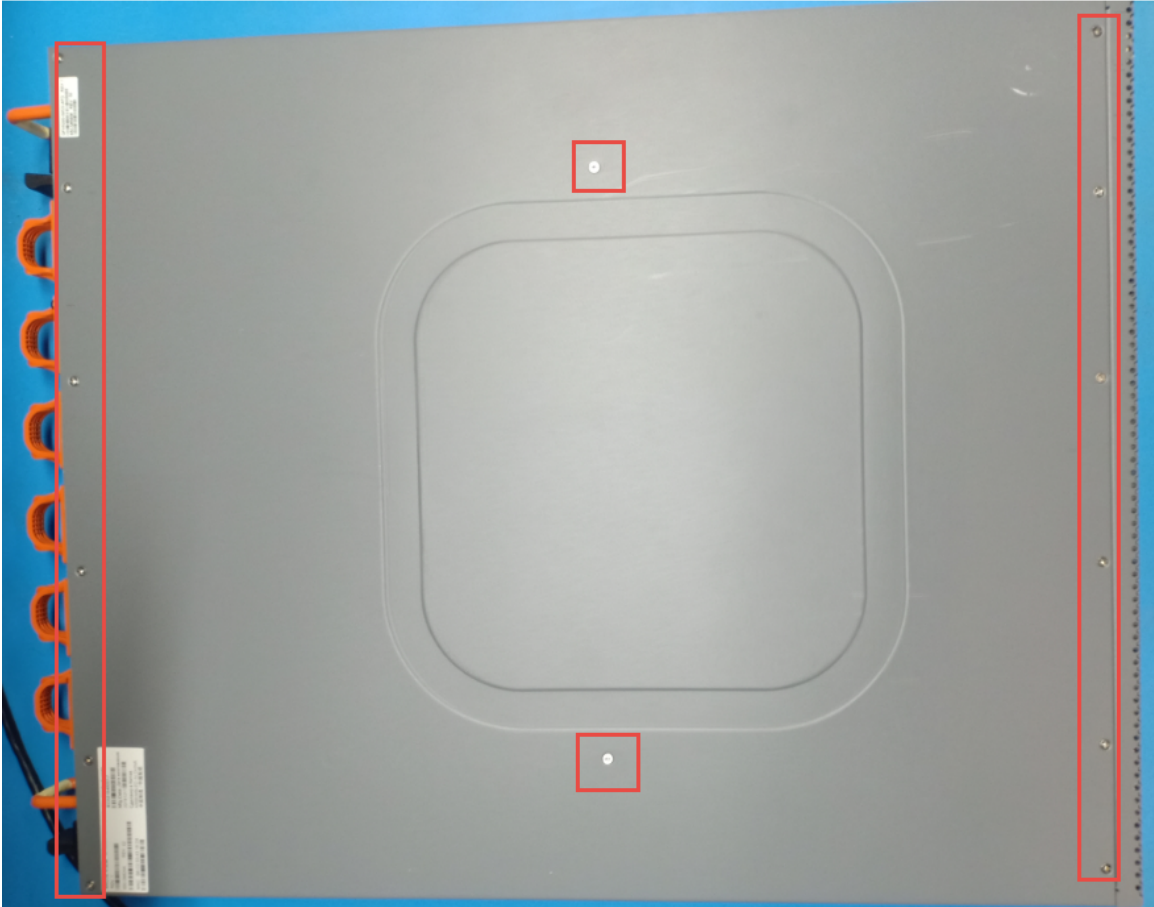

Figure 3-1: Top side screws removal
3. Remove all screws from the top and sides of the system (Figure 3-1)